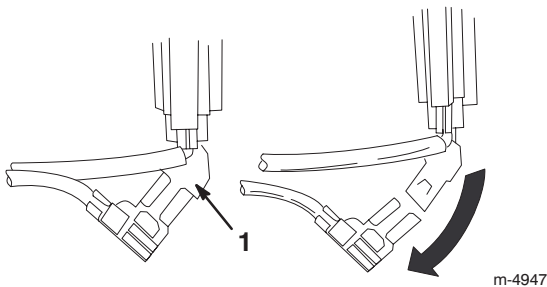

Figure 19
6. Disconnect the green ground wire clip under the throttle (Fig. 19).